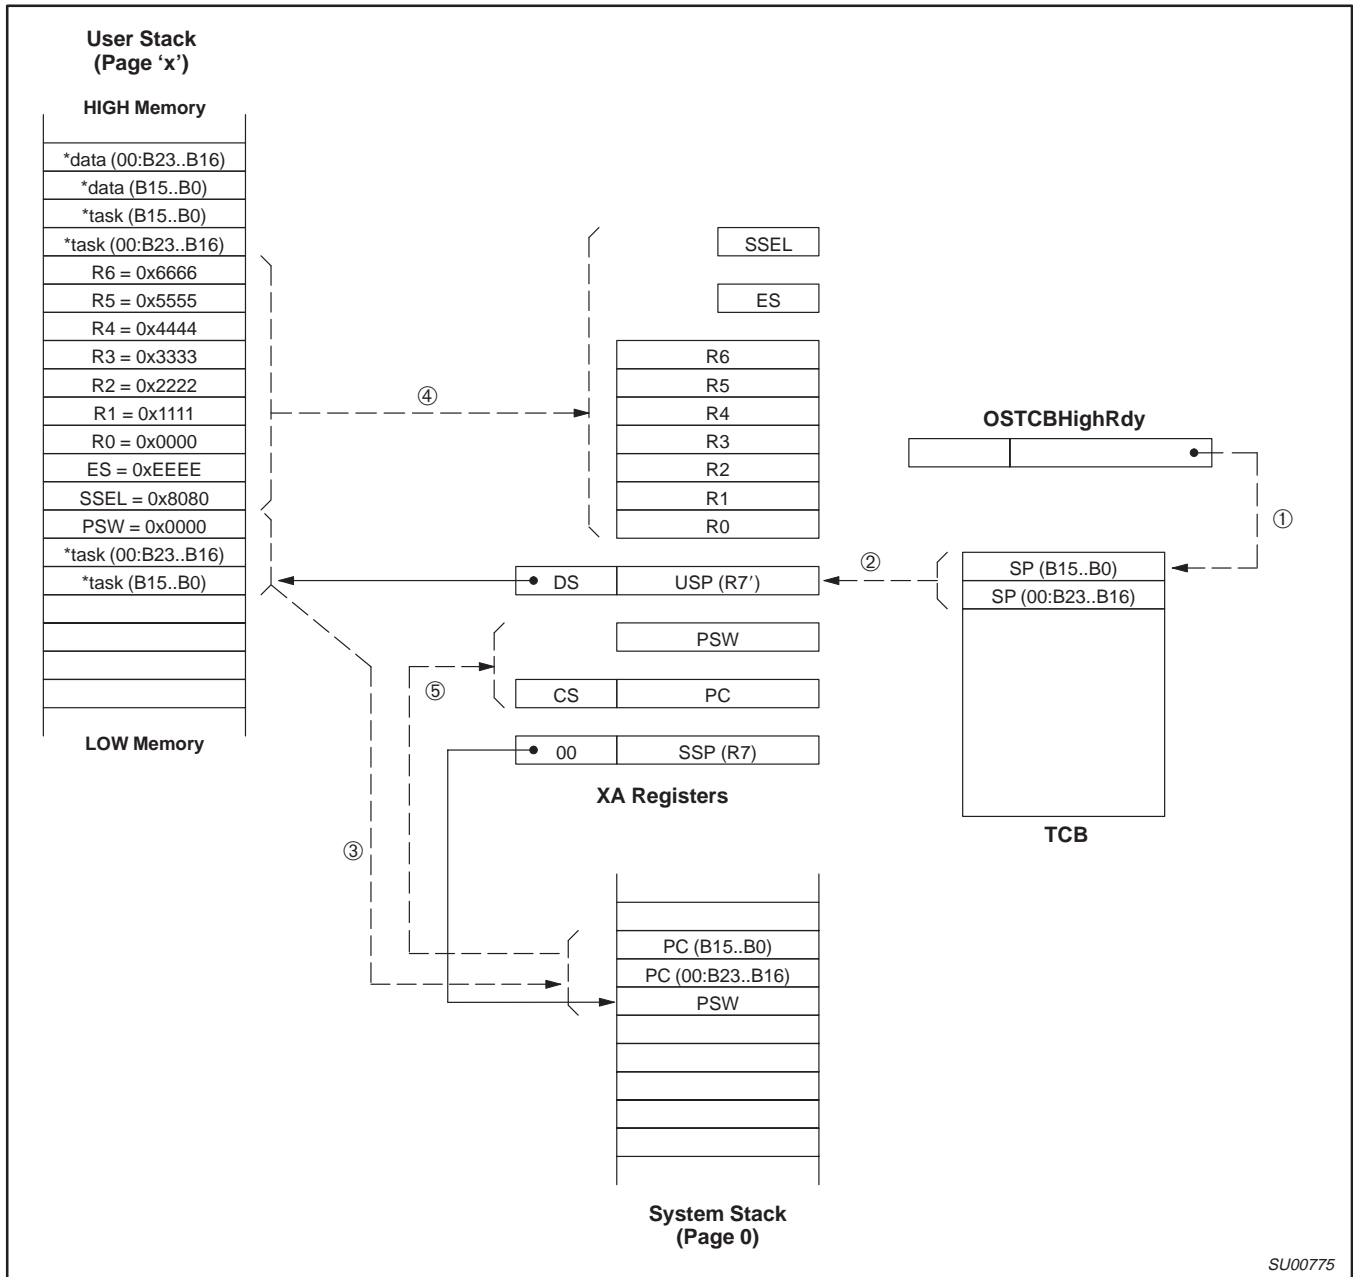

Figure 7.
As previously mentioned, multitasking starts when you call `OSStart()`. Figure 7 illustrates the process. `OSStart()` finds the TCB of the highest priority task that you created, loads the pointer `OSTCBHighRdy` to point to that TCB ① and calls the assembly language function `OSStartHighRdy`. `OSStartHighRdy` loads the USP and the DS register from the task's TCB ② and then moves the start address of your task, along with the PSW from the user stack to the system stack ③. `OSStartHighRdy` then pops the remaining registers from the user stack ④ and finally, `OSStartHighRdy` executes a return from interrupt which loads the PC and PSW from the system stack ⑤ into the XA. Because the PSW was initialized to 0x0000, the XA will now execute the first instructions of your task in user mode with all interrupts enabled.
TCB ① before invoking `OSCtxSw()` which is done through the TRAP #15 instruction. `OSTCBCur` already points to the TCB of the task to suspend. The TRAP #15 instruction automatically pushes the return address and the PSW onto the system stack ②. `OSCtxSw()` starts off by saving the remainder of the XA's registers onto the user stack ③ and then, moves the saved PSW and PC from the system stack to the user stack ④. The final step in saving the context of the task to be suspended is to store the top-of-stack into the current task's TCB ⑤. The second half of the context switch operation restores the context of the new task. This is performed in the following four steps. First, the user stack pointer is loaded with the new task's top-of-stack ⑥. Second, the PC and PSW of the task to resume is moved from the user stack to the system stack ⑦. Third, the remainder of the XA's registers are restored from the user stack ⑧. Finally, a return from interrupt instruction (RETI) is executed ⑨ to retrieve the new task's PC and PSW from the system stack which causes the new task to resume execution where it left off. As shown in Figure 7, a context switch for the large model takes only about 10μs at 24MHz.